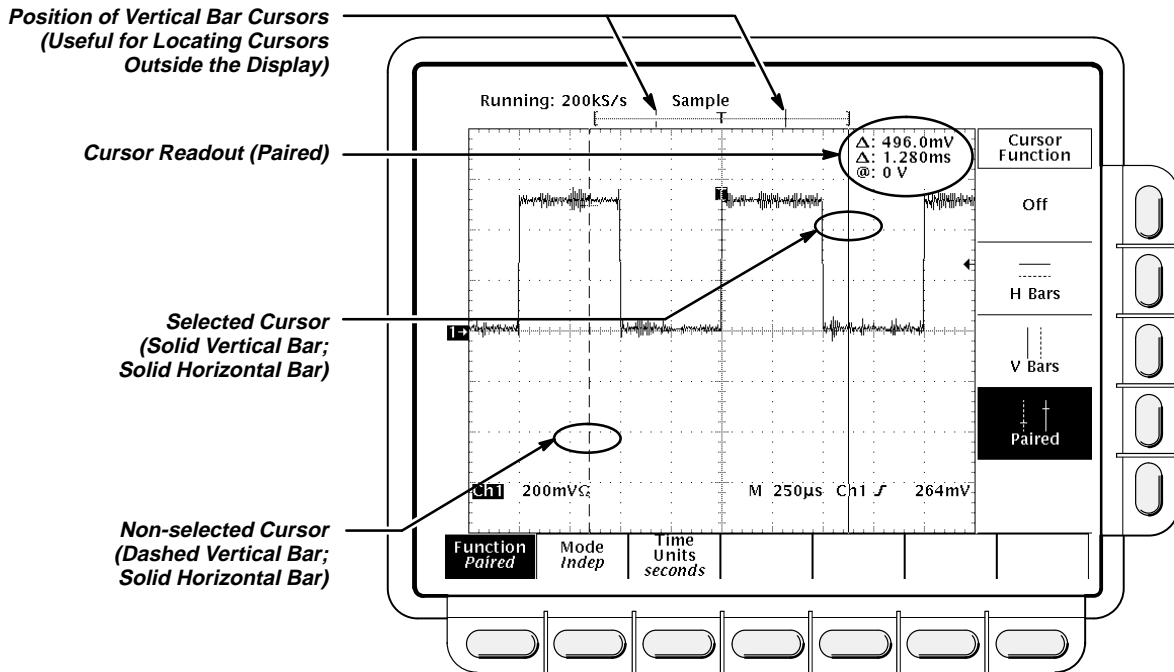

Figure 3-7: Paired Cursor Menu and Readouts
- Paired:** the value after one  $\Delta$  shows the voltage difference between the two short horizontal bars; the other  $\Delta$  shows the time (or frequency) difference between the two long vertical bars. The value after the @ shows the voltage at the short horizontal bar of the selected cursor relative to ground (see Figure 3-7).